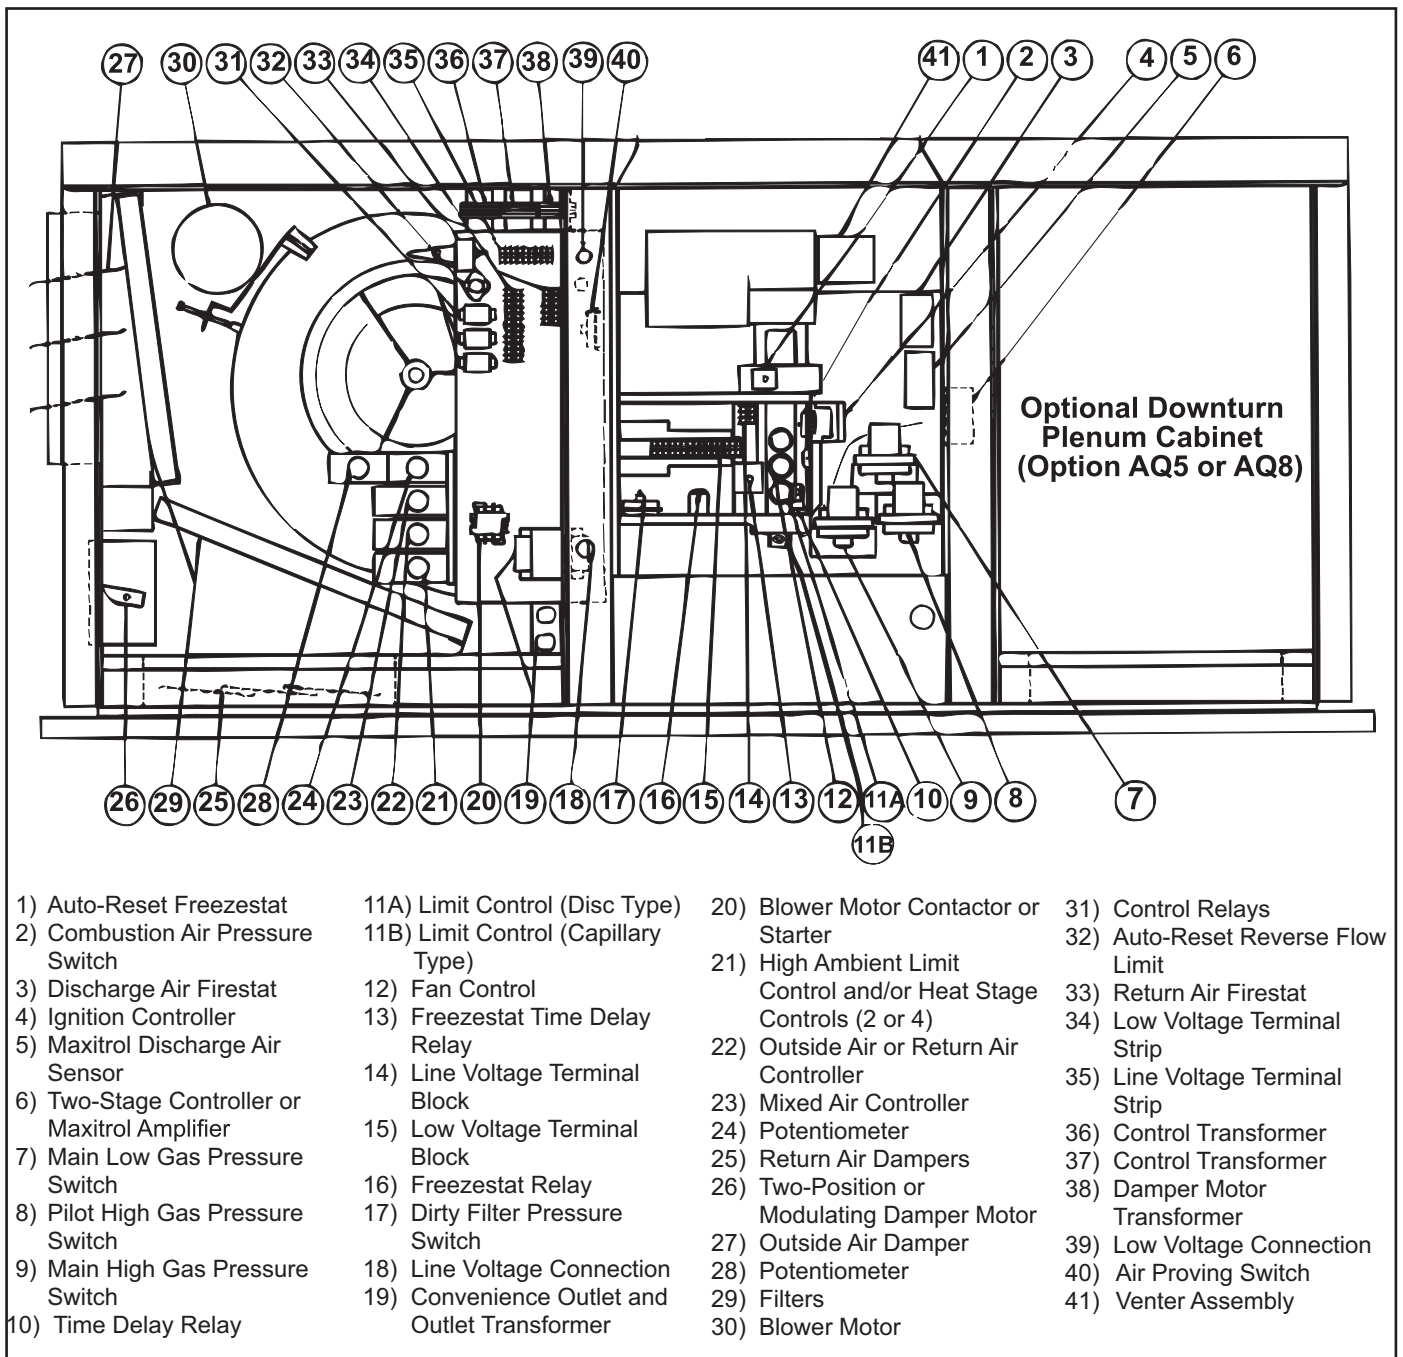

Figure 36. Typical Control Locations
- There are a variety of optional controls (see Figure 36) available as part of the gas and air control options. Optional shipped-separate heating and makeup air controls could include a single or two-stage thermostat, system switches, Selectrastat, freezestat, discharge temperature low limit, an automatic night setback device, a Maxitrol temperature selector, a potentiometer, a pressure null switch, or a combination of these controls. Install controls according to the manufacturer’s instructions packaged with the heater.
Control locations are shown in Figure 36. For information on system controller options D19, D21, D22, and D23, refer to the control system guide listed in Table 1.